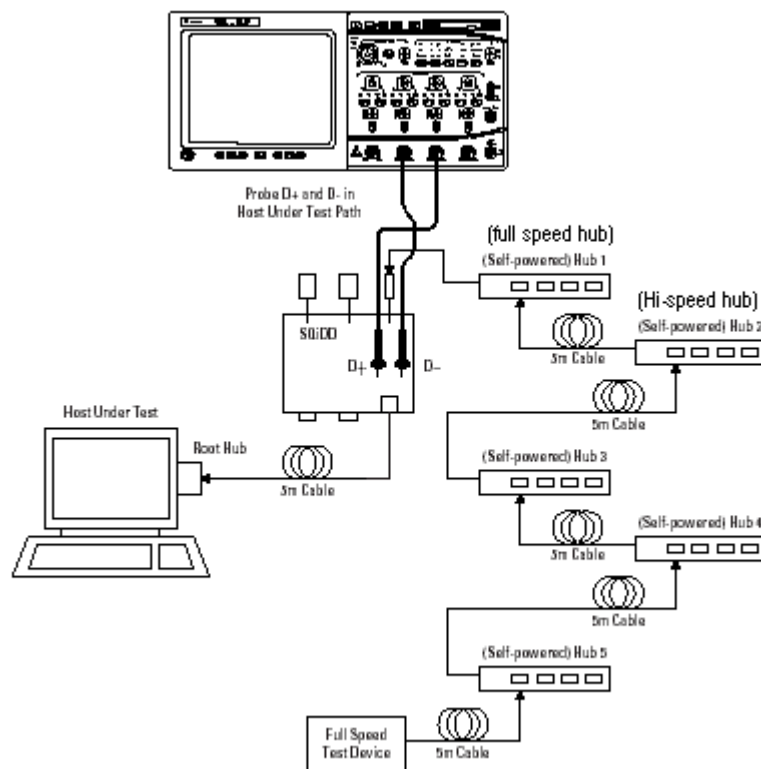

Figure 16. Downstream FS Signal Test environment
2. Connect the equipment and test fixture as shown in Figure 16.